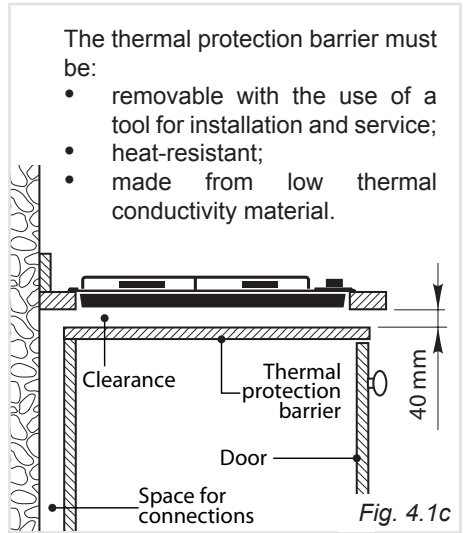

Fig. 4.1c
- If the cooktop is installed directly above an oven (which does not have a cooling fan motor) a thermal protection barrier must be installed below the base of the cooktop as indicated in fig. 4.1c.
- If the cooktop is installed directly above an oven (which does not have a cooling fan motor) or if its base is accessible through a cupboard or drawer space after installation, a thermal protection barrier must be installed below the base of the cooktop as indicated in fig. 4.1c.